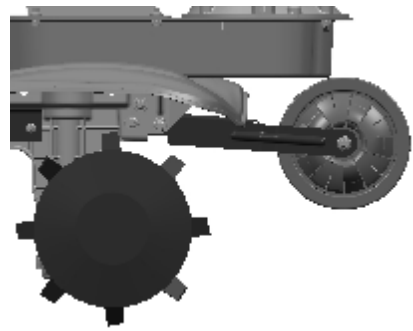

Figure 10
- 2) Adjust the front wheel of tiller to the state shown in Fig.10 when it is going to till the field.